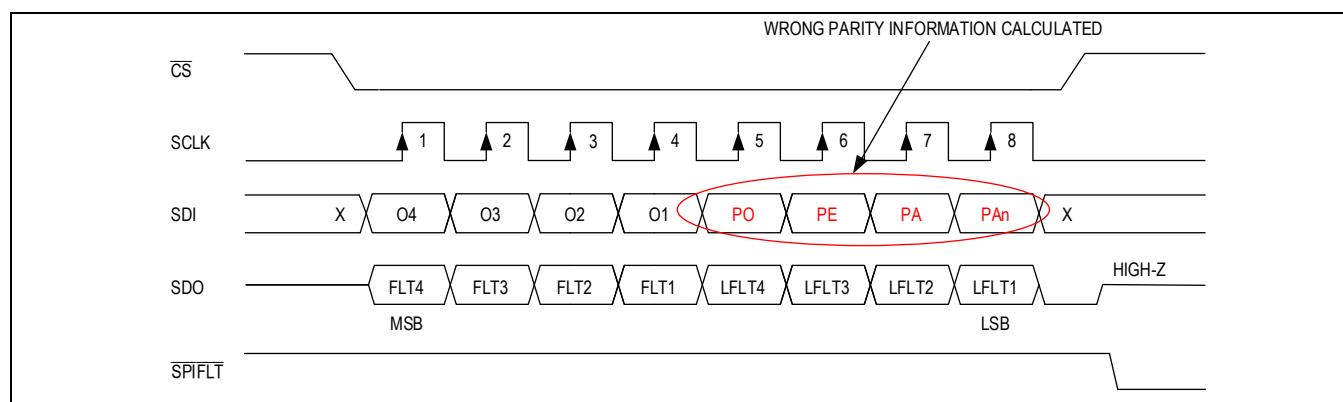

Figure 6. SPIFLT Signaling Due to Incorrect Parity Bits on SDI
- The parity bits calculated by the MAX14918 differ from the ones transmitted by the SPI controller (see Figure 6).